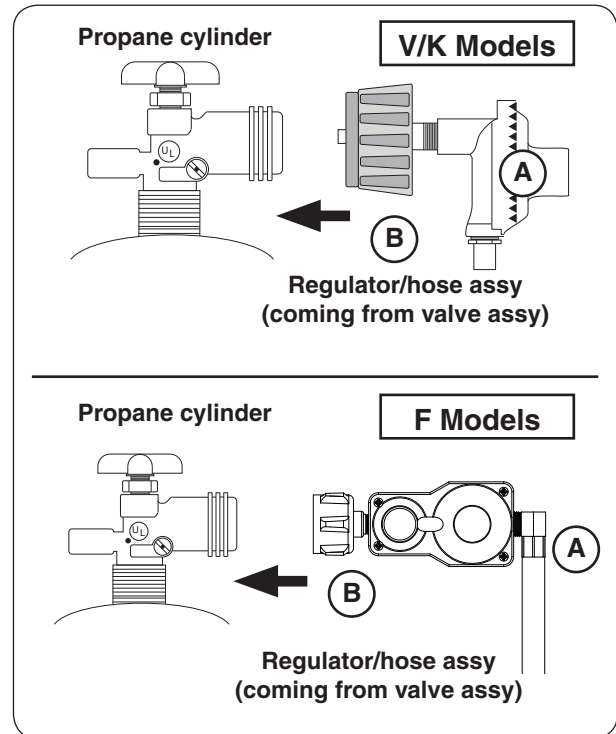

Fig. 26-1 Connecting to an L.P. cylinder
3. Attach the regulator end of the hose assembly to a propane cylinder (not included) and tighten (see Fig. 26-1).